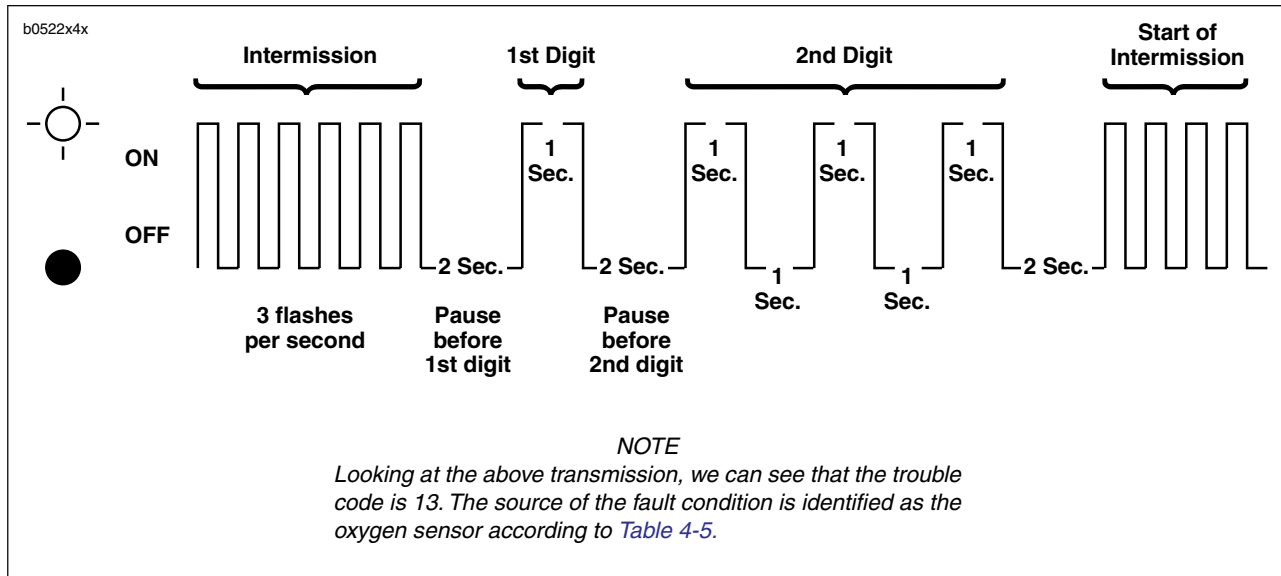

Figure 4-12. Check Engine Lamp Diagnostics
4. See Figure 4-12. All trouble codes are sent out as a series of flashes. To retrieve the first digit of the trouble code simply observe the number of times the lamp flashes.